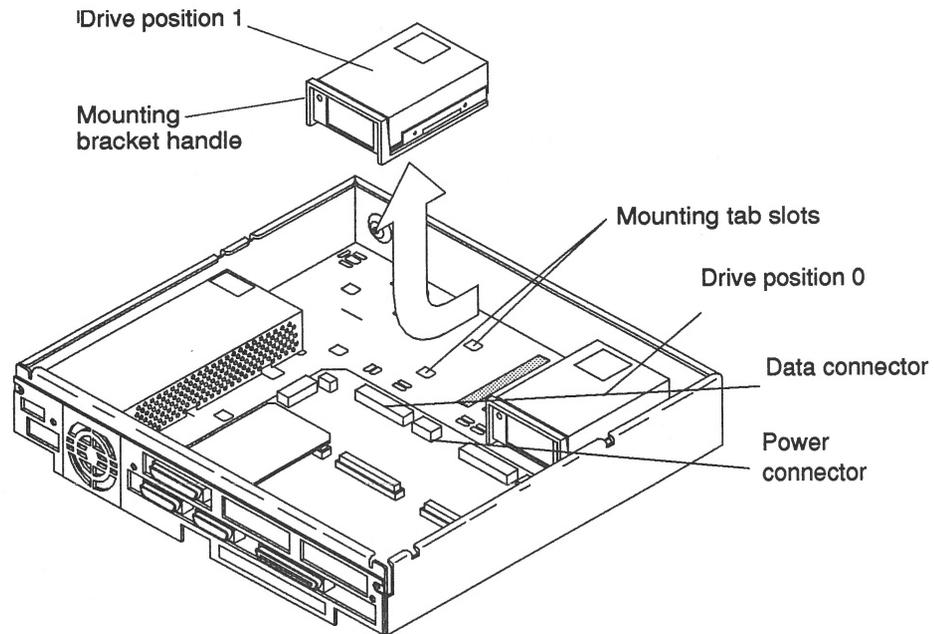

Figure 4-11 Removing a Hard Disk Drive
7. Disconnect the hard disk drive power and data cables from the data and power connectors on the controller board. Refer to Figure 4-11.